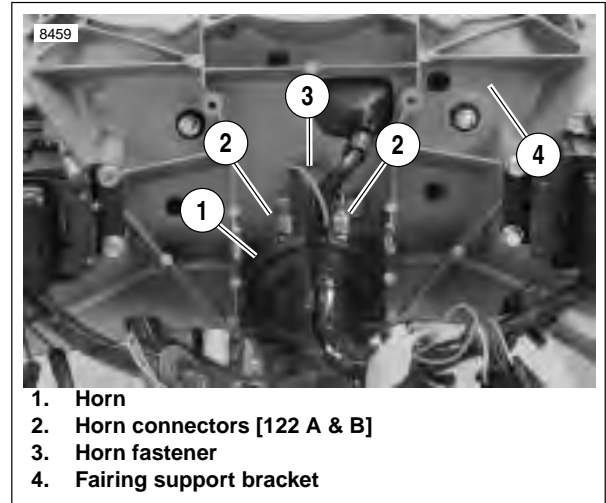

Figure 7-69. Horn Assembly
4. See Figure 7-69. Remove fastener (3).
5. Remove horn (1) from fairing support bracket (4).
2. See Figure 7-69. Attach horn (1) to fairing support bracket (4) using fastener (3). Tighten to 72-96 in-lbs (8.1-10.8 Nm).